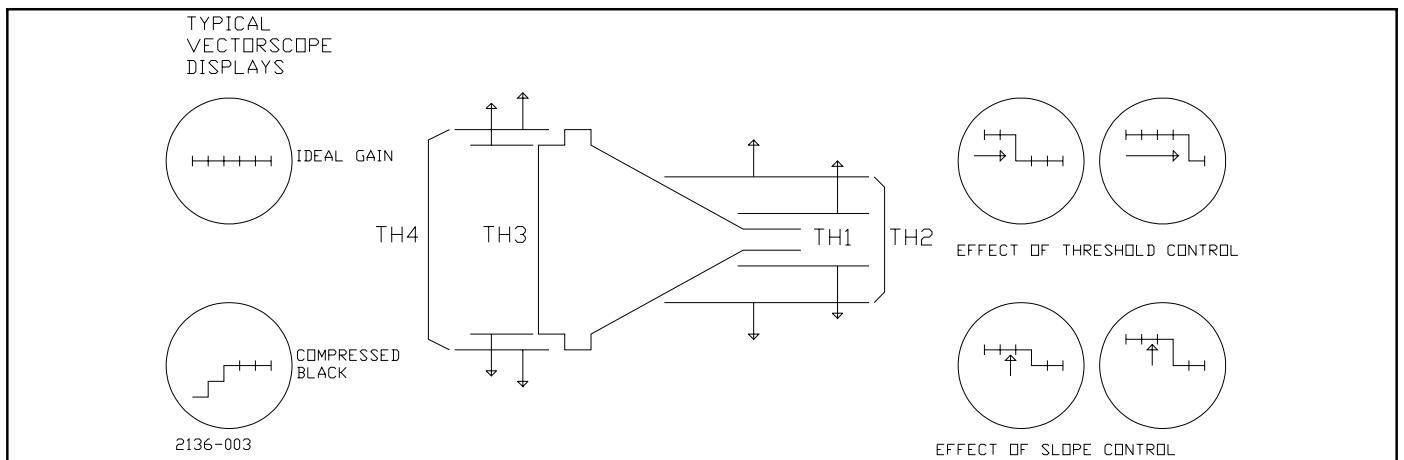

Figure 5-8. Diff. Gain, Effect of TH and SL Controls
- f. Observe differential gain and perform the following IF Linearity Corrector adjustments (see Figure 5-8).